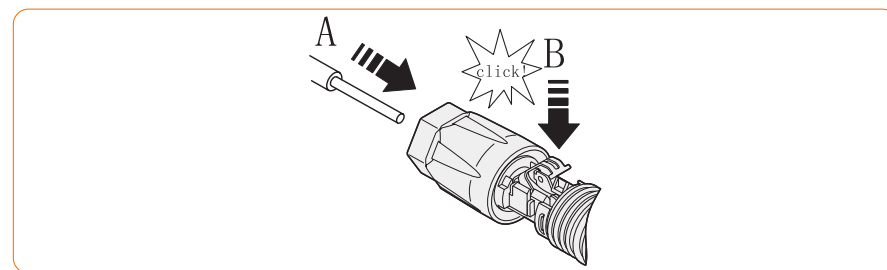

Figure 4-24
- ④ Insert the stripped DC cable to the battery connector deep enough and toggle the clamping bracket to make sure it tightly locked with the stripped cable, as shown in Figure 4-24: